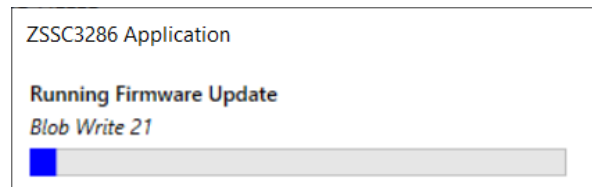

Figure 163. IO-Link FW Update Progress
- via IO-Link: Figure 163 shows the progress pop-up window during FW Update.